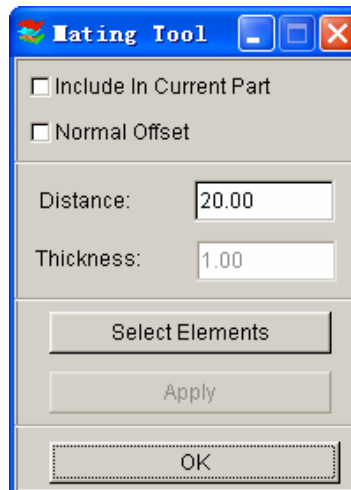

Figure 9.2.11 The Mating Tool dialog window.
- Select OFFSET FROM MATING TOOL and the MATING TOOL dialog window (as shown in Figure 9.2.11) is displayed.